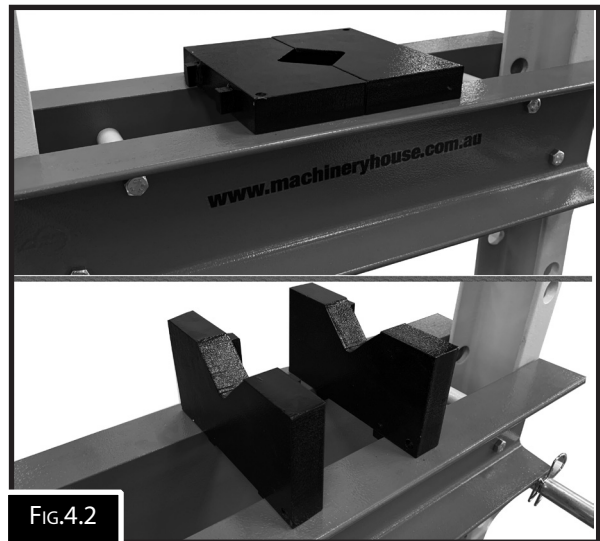

FIG.4.2
1. Place the workpiece on the bed. It must be completely stable and supported by packing or shims where required. Steel pressing plates are supplied, (Fig.4.2) which locate on the bed in either flat or vertical position. Place the workpiece on a combination of these to give it stability.